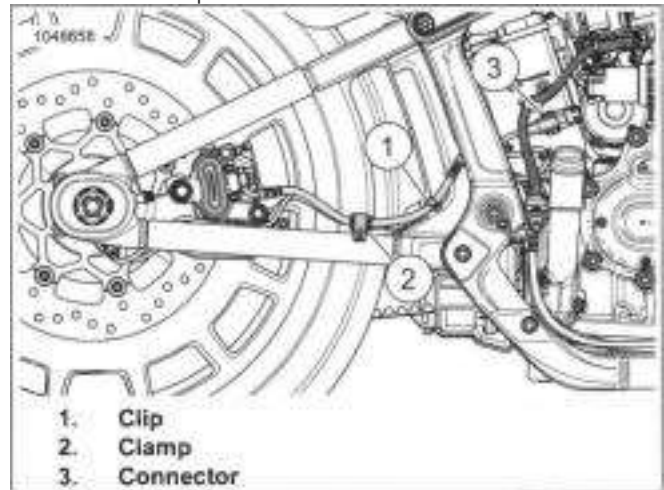

Figure 7-142. Rear Wheel Speed Sensor
2. See Figure 7-142. Remove WSS wire from clips (1).
3. Remove clamp (2).
4. Disconnect connector (3).
2. See Figure 7-142. Connect WSS sensor connector (3).